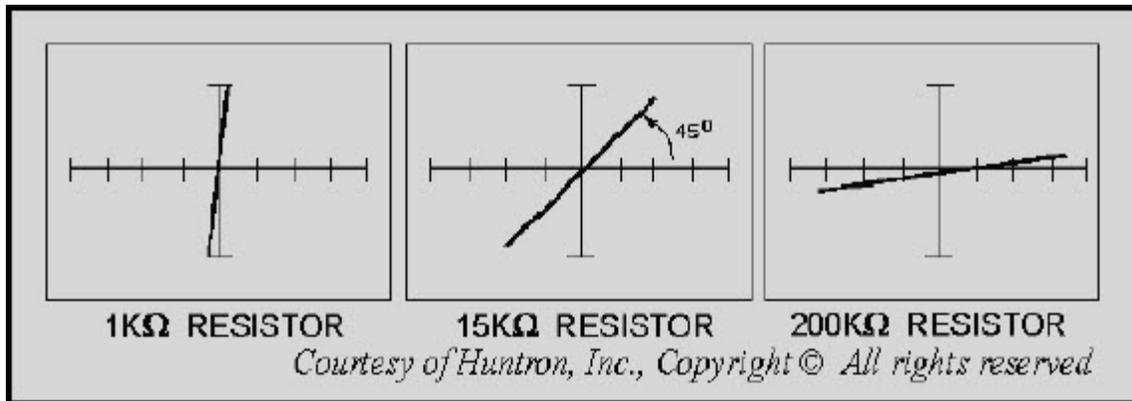

Figure 5-32 Effects of resistance on the rotation angle in medium 2 range
**MEDIUM 2 RANGE** - The medium 2 range is designed to test for resistance values between  $1\text{K}\Omega$  and  $200\text{K}\Omega$ . Figure 5-32 shows the signatures for a  $1\text{K}\Omega$  resistor, a  $15\text{K}\Omega$  resistor, and a  $200\text{K}\Omega$  resistor in the medium 2 range. Resistance values that are smaller than  $1\text{K}\Omega$  will appear to be almost a vertical line. A  $15\text{K}\Omega$  resistor causes a change in the angle of rotation of  $45^\circ$ , whereas the display for a  $200\text{K}\Omega$  resistor shows only a slight rotation. When resistance values being tested are higher than  $200\text{K}\Omega$ , the displayed signature that they produce will have such a small rotation that it appears to be almost a horizontal line.